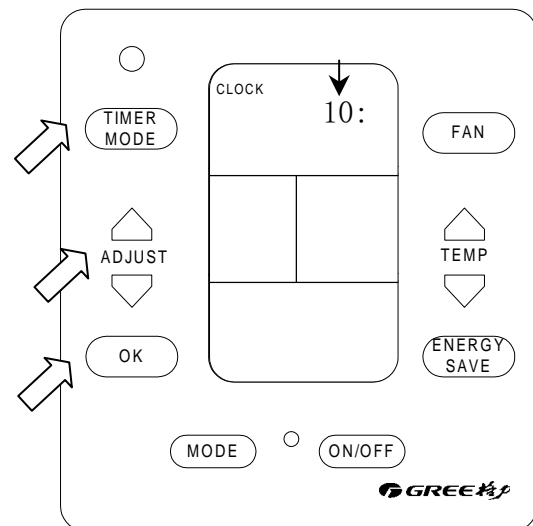

Fig.5: set the time of hour at 10 o'clock.
- ❖ When **CLOCK** is shining, hour of the time will be displayed, and the push on the “**TIME ADJUST**” button at that time will set to a desired hour, (Fig.5)